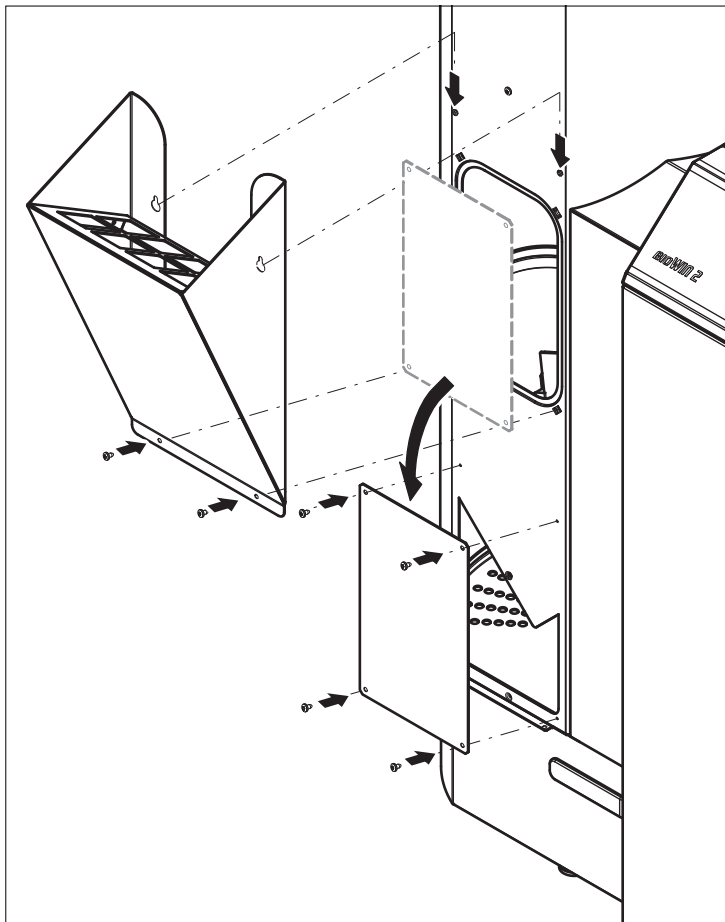

Fig. 70 Mount the Pellet chute and inspection cover
- ▶ Fill pellets into the boiler pellet hopper through the inspection cover using a small bucket or shovel, or attach Pellet chute (accessory – pellet chute for temporary use only or when manually filling the boiler pellet hopper, if feed is not complete.) and then add the pellets – Fig. 70.
- ▶ Mount the inspection cover as a means of anti-contact protection in front of the opening to the auger conveyor – Fig. 70.